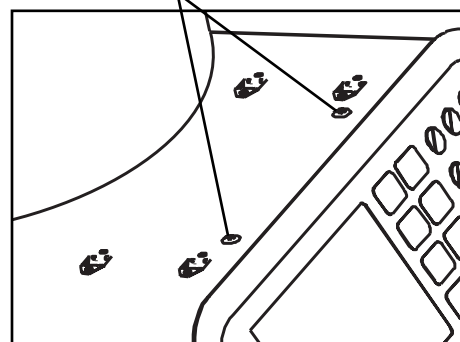

Fig 2C
5. Remove the 2 top screws from the cover. Fig. 2C